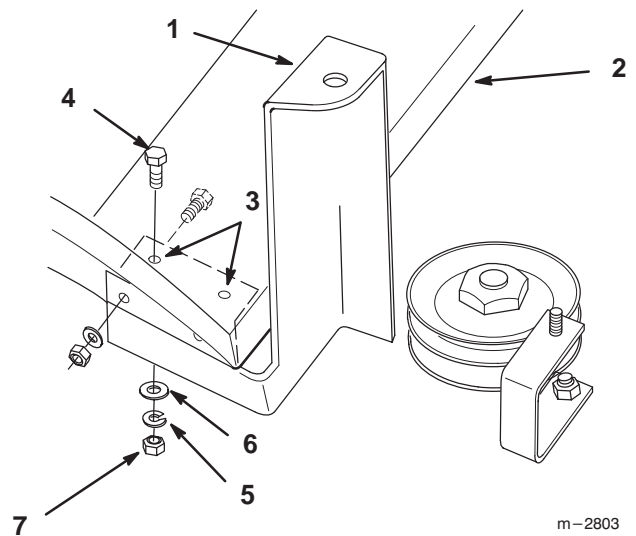

Figure 8
4. Remove hardware securing right fender to footrest. Save for installing spring bracket. Fasten spring bracket below footrest using previously removed hardware (Fig. 8).
5. Locate holes in footrest, covered over by footpads. Punch out footpad at holes and secure spring bracket with (2) 3/8"-16 x 1-1/4" (32 mm) bolts, washers, lock washers and locknuts